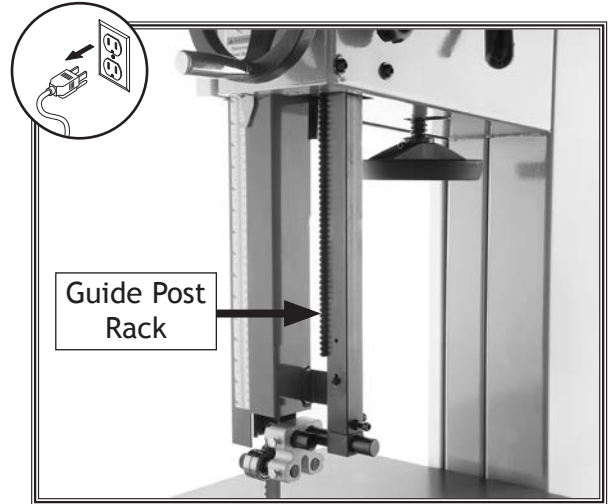

Figure 83. Guide post rack exposed for lubrication (roller bearing guides shown).
3. Use a rag and mineral spirits to wipe off any grease and sawdust build-up on rack (see **Figure 83**).